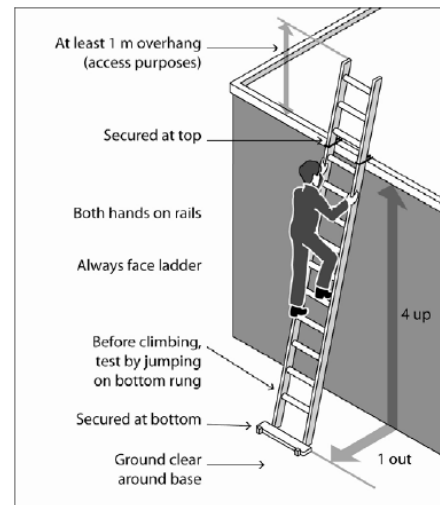

Figure 2 - Example of Safe Ladder Use
- placing ladders at a slope of 4:1 (the distance between the ladder base and the supporting structure should be about 1 metre for every 4 metres of working ladder height, see Figure 2)